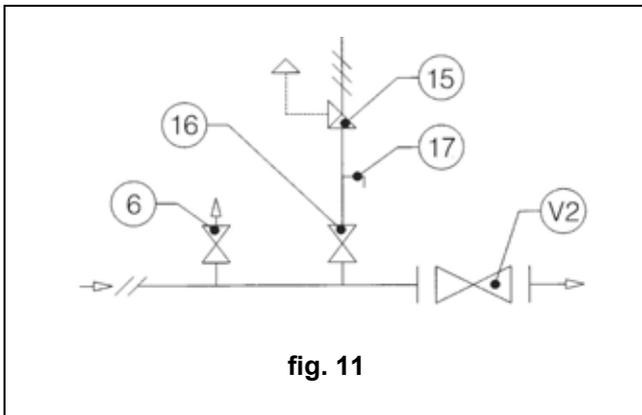

fig. 11
4.1.2 INSTALLATION WITH ON/OFF VALVE (fig. 11)